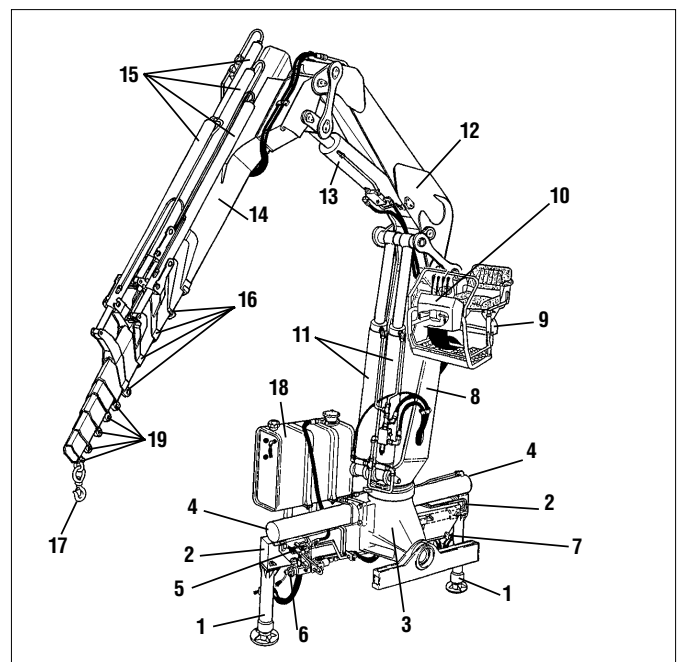

fig. 6
- Version with ground controls for outriggers and top seat controls for crane (fig. 6)